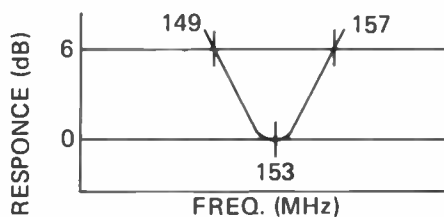

Figure 6. RF CHARACTERISTIC
Step 2: Adjust T1, T2 and T3 of RF section for maximum output and best curve symmetry as shown in Figure 6.